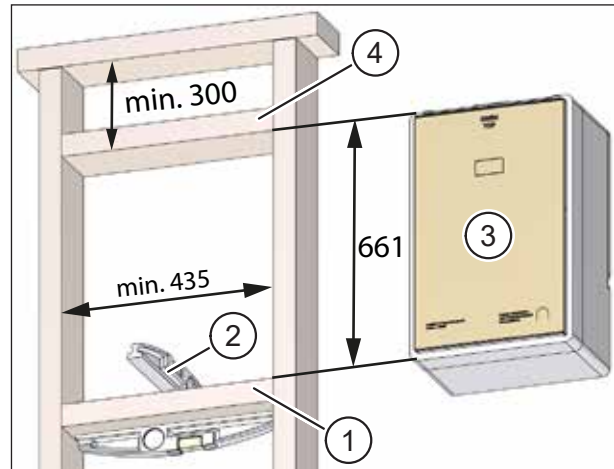

Fig. 45: Creating a mount for the installation kit in a frame construction – dimensions in millimetres
- The lower batten (item 1 in Fig. 45) acts as a support.
- ▶ Use a spirit level (item 2 in Fig. 45) to check that the lower batten is exactly horizontal as this is the only way to ensure that any condensation will be carried outside by the 2° pipe fall in the installation kit (item 3 in Fig. 45).
- The upper batten (item 4 in Fig. 45) is used to fix the installation kit.
- The installation kit is fixed in the optimum position with a vertical distance of 661 mm between the lower and upper batten (see Fig. 45). You can insert the installation kit temporarily while fixing the battens to ensure that the kit will fit perfectly.